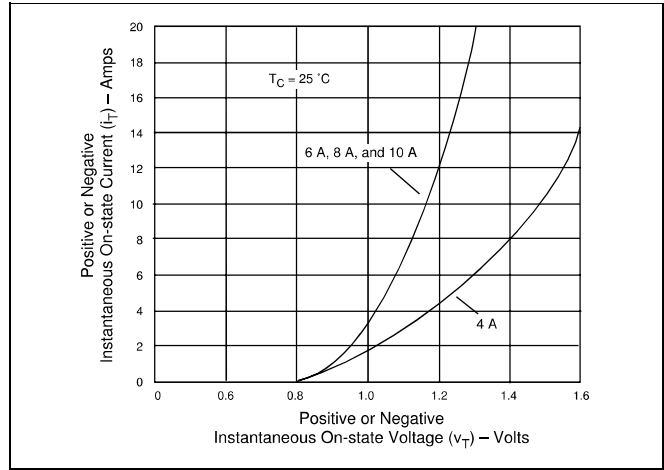
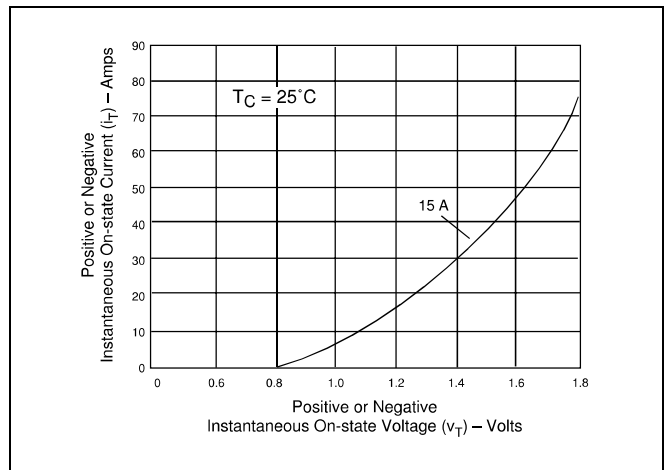

Figure E3.4 On-state Current versus On-state Voltage (Typical) (4 A to 10 A)
Figure E3.5 On-state Current versus On-state Voltage (Typical) (15 A)
- (3) See Figure E3.4 and Figure E3.5 for I_T versus v_T.